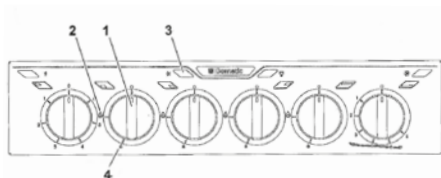

Fig 6
- To generate the flame, fully press down the control knob (Fig. 6 1) and turn it to the large flame position (Fig. 6 2).
- Simultaneously push down the electronic ignition button (Fig. 6 3).
- turn the knob to the small flame position (Fig. 6 4)
- To adjust the flame, turn the knob to the desired position (Fig. 6 1).